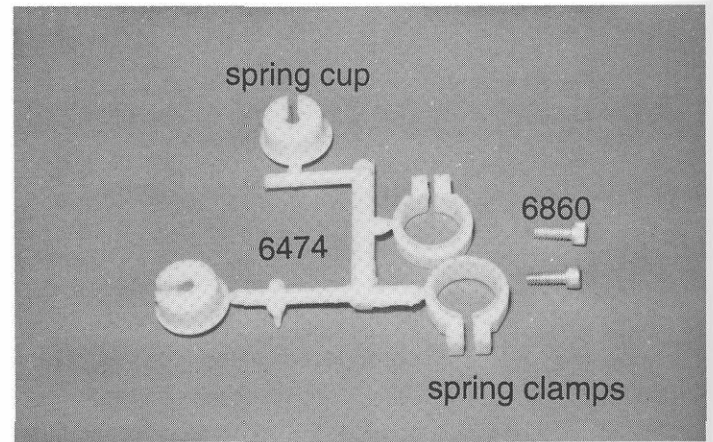

Fig. 126
□ **Fig. 126 & 127** (1) From bag #6-11 remove the two #6474 spring clamps and cups parts trees and four #6860 4-40 x 3/8" aluminum SHCScrews. (2) Remove the shock spring clamp and cup parts from the parts trees. (3) Each tree has both a left and a right spring clamp on it. Slide the nylon clamp onto each shock with the thin flange edge on the shaft side. (4) Each spring clamp has one hole that is slightly larger than the other. Install the #6860 aluminum screw through the larger hole and then thread it into the smaller hole. (5) Now slide the clamp to the top of the shock body and tighten it just enough to keep the clamp from moving.